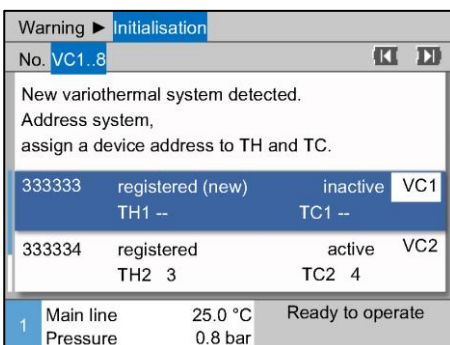

Fig. 23: Assign Module ID
2. Press the key and adjust the address of the VC module (→ Fig. 23 Ex. VC1)